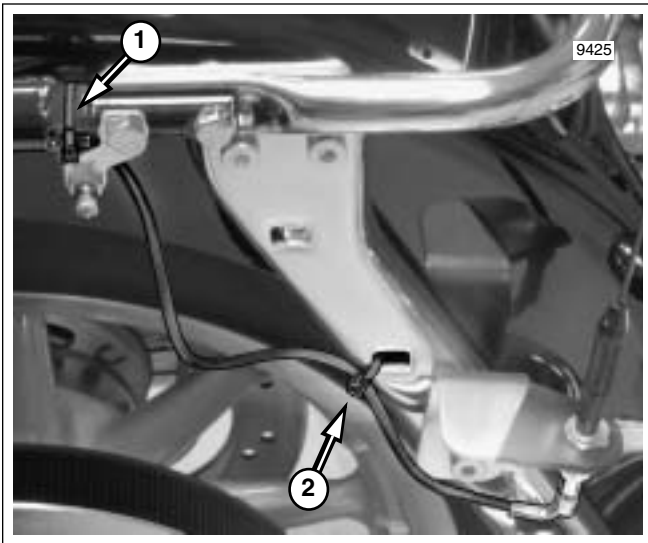
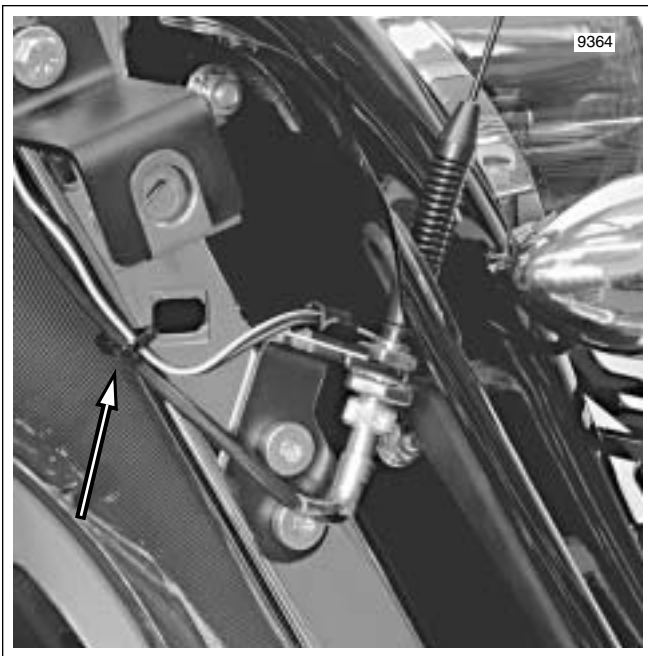

Figure 8-185. Capture Radio Antenna Cable (FLTR)
Figure 8-186. Capture Radio Antenna Cable (FLHX)
11. Carefully cut cable strap to release radio antenna cable from shoulder of upper frame tube (just in front of air valve mounting bracket). Cut cable strap to release radio antenna cable from slotted hole in rear fender support. See Figure 8-185.
6. Install **new** cable strap to secure radio antenna cable (and rear facia lamp wires on FLHX) to shoulder of upper frame tube (just in front of rear shock air valve mounting bracket). Using slotted hole, install **new** cable strap to secure radio antenna cable (and rear facia lamp wires on FLHX) to rear fender support. See Figure 8-185 or Figure 8-186.